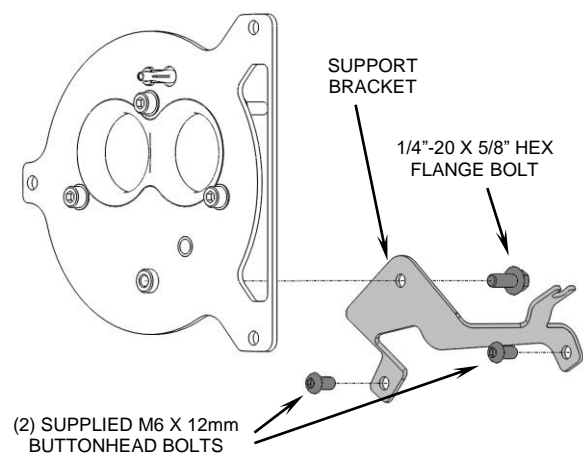
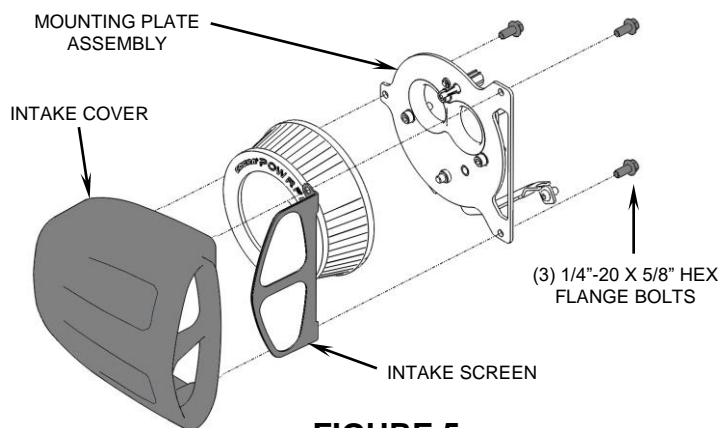

FIGURE 4
FIGURE 5
8. Install the supplied support bracket to the two threaded bosses near the base of the cylinders using the (2) supplied M6 x 12mm buttonhead bolts. Secure the support bracket to the mounting plate using the (1) supplied 1/4" hex flange bolt, and finger tighten. See Figure 4.
9. Fully tighten the (3) M6 x 25mm allen bolts, from Step 7, followed by the support bracket bolts, from Step 8.
11. Insert the intake screen into place so the holes in the bent tabs align with the threaded bosses in the intake cover, see Figure 5 for orientation. Place the supplied venturi filter into the intake cover.
12. Place intake cover over the mounting plate and align the mounting holes to the threaded bosses. Insert (3) supplied 1/4" hex flange bolts and tighten the mounting plate to the intake cover. See Figure 5.